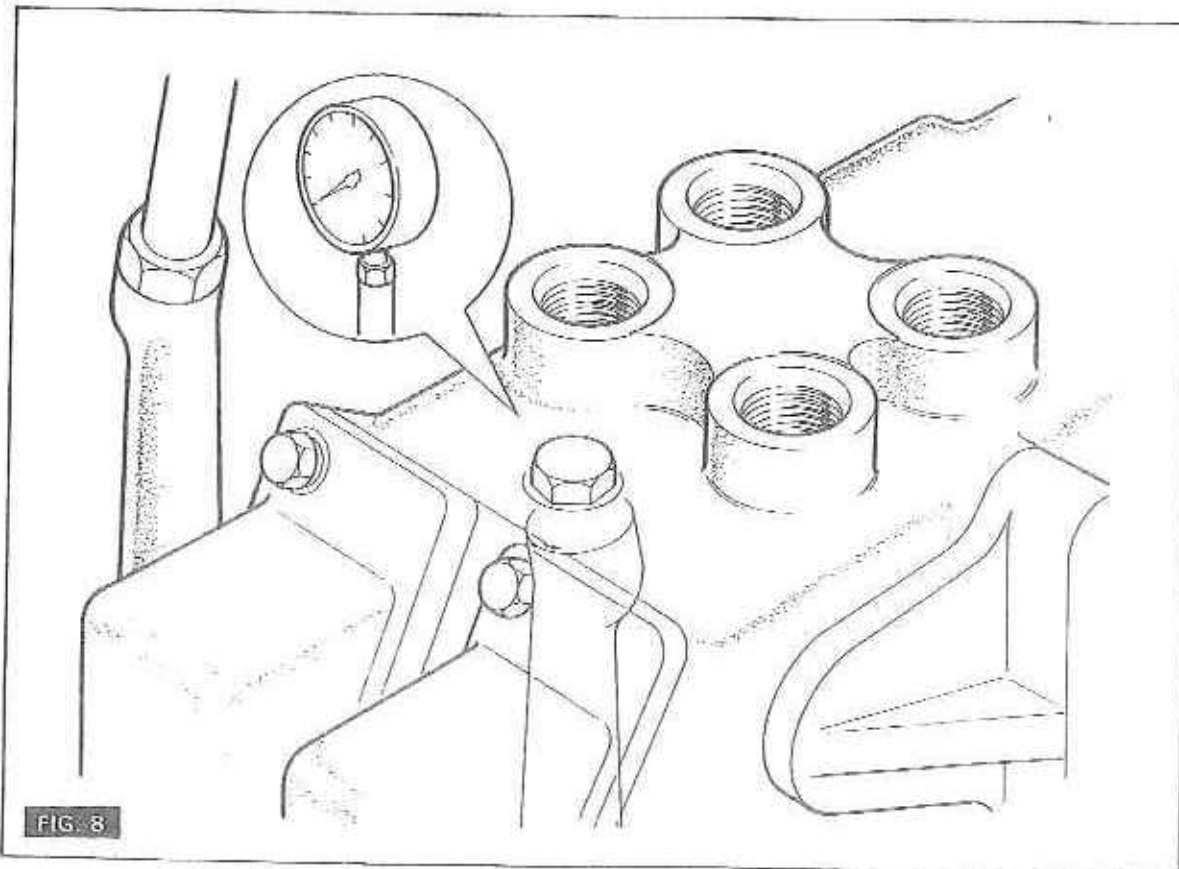

FIG 8
4. (Fig. 8). Remove the plug and connect in its place gauge No. MF 148A and adaptor No. MF 148-9.